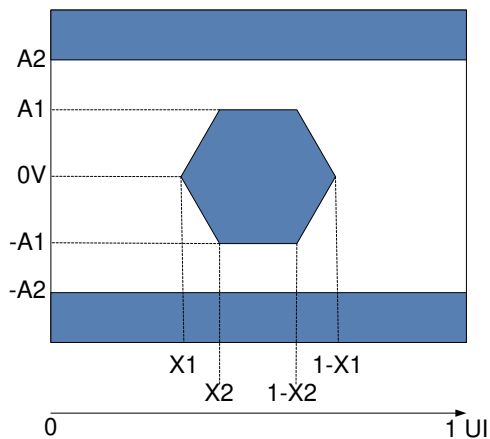

图 5-11. HSSI Eye Characteristics
(1) All power supply connections are required to operate the DMD: V_{DD}, V_{DDA}, V_{OFFSET}, V_{BIAS}, and V_{RESET}. All V_{SS} connections are required to operate the DMD.
(2) All voltage values are with respect to the ground pins (V_{SS}).
(3) To prevent excess current, the supply voltage delta | V_{DDA} - V_{DD} | must be less than the specified limit.
(4) To prevent excess current, the supply voltage delta | V_{BIAS} - V_{OFFSET} | must be less than the specified limit.
(5) Supply power dissipation based on three global resets in 200μs.
(6) LVC MOS input specifications are for pin DMD_DEN_ARSTZ.
(7) LVC MOS output specification is for pins LS_RDATA_A and LS_RDATA_B.
(8) Refer to 图 5-11, Receiver Eye Mask (1e-12 BER).
(9) Defined in the *Recommended Operating Conditions*.